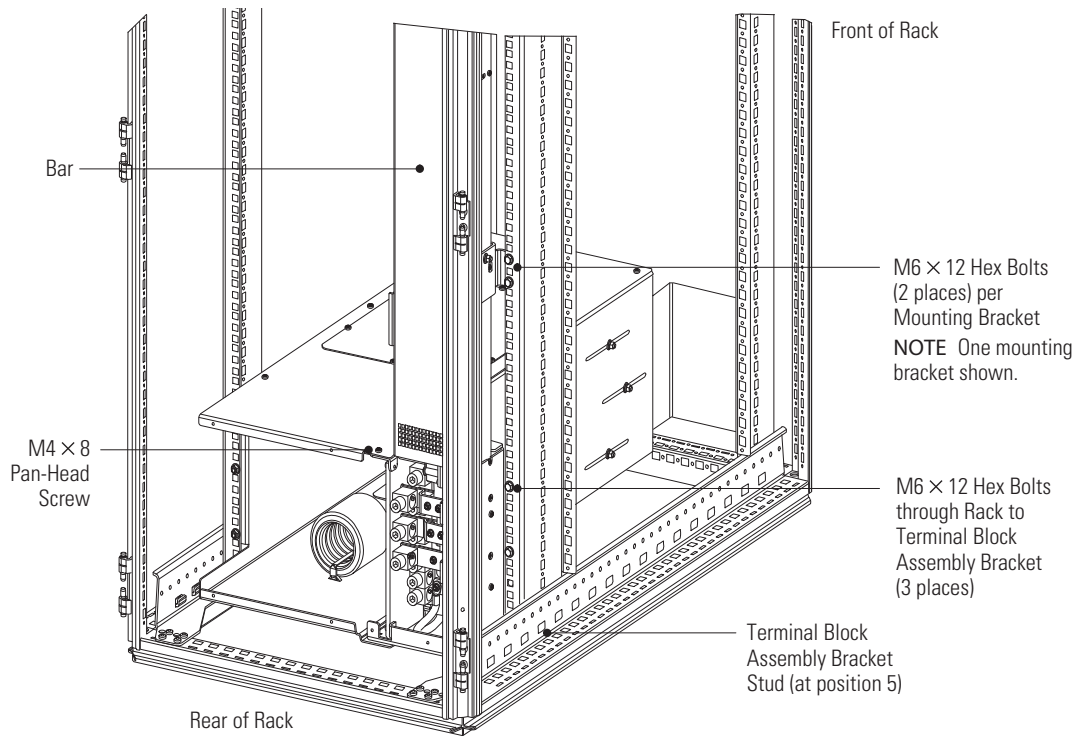

Figure 6. Bar Brackets Installation
Install the lowest bolt in position 2, then use positions 8 and 14. Verify that the terminal block assembly bracket stud aligns completely with the rack hole between the lower and middle bolts (position 5). See Figure 6. Torque the bolts to 5.1 ± 0.8 Nm (45 ± 7 lb in).
15. **BladeUPS Bar 3-High.** Install two M6 x 12 hex bolts in each of the bar's two mounting brackets, securing the length of the bar to the rack. See Figure 6. Torque the bolts to 5.1 ± 0.8 Nm (45 ± 7 lb in).
16. **BladeUPS Bar 4-High.** Install two M6 x 12 hex bolts in each of the bar's two mounting brackets, securing the length of the bar to the rack. See Figure 6. Torque the bolts to 5.1 ± 0.8 Nm (45 ± 7 lb in).
17. **BladeUPS Bar 6-High.** Install two M6 x 12 hex bolts in each of the bar's three mounting brackets, securing the length of the bar to the rack. See Figure 6. Torque the bolts to 5.1 ± 0.8 Nm (45 ± 7 lb in).
18. Install an M4 x 8 pan-head screw to secure the wireway top panel to the bar. See Figure 6.